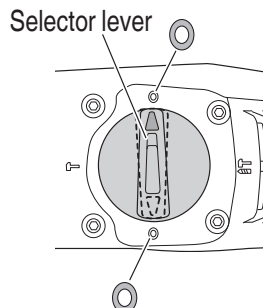

Fig. 11
- (2) When fixing working positions of tools such as cold chisel, etc.,
- (a) Turn the selector lever. Align ▲ of the selector lever and ○ of the lever holder as illustrated in Fig. 11.